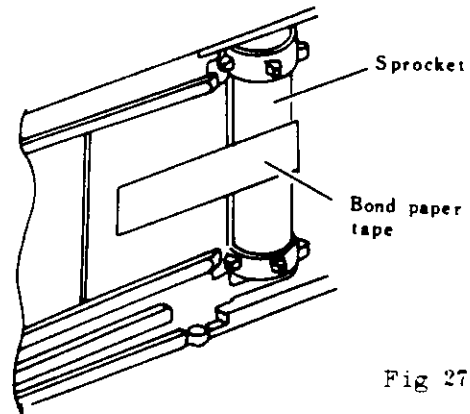

Fig 27
- c) Temporarily, bonding bond paper tape on side of Sprocket as shown in (Fig 27).